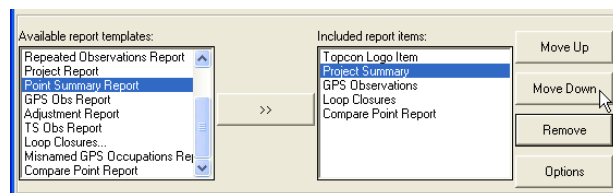

Figure 7-26. Edit Item Columns
3. If adding items, select the items to include in the left column and click the move right (>>) button (Figure 7-26 on page 7-18).
4. If removing items, select the items to remove and click **Remove** (Figure 7-26 on page 7-18).
5. Use the **Move Up** and **Move Down** buttons to order included items (Figure 7-26 on page 7-18).
2. If adding items, select the items to include in the left column and click the move right (>>) button (Figure 7-26).
3. If removing items, select the items to remove and click **Remove** (Figure 7-26).
4. Use the **Move Up** and **Move Down** buttons to order included items (Figure 7-26).